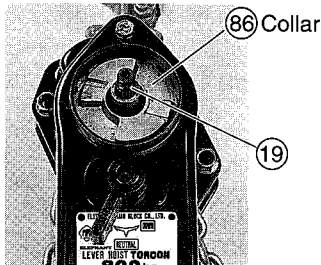

Fig. 1
1. Ascertain that the collar (86) is mounted onto the pinion shaft (19). (Fig. 1)